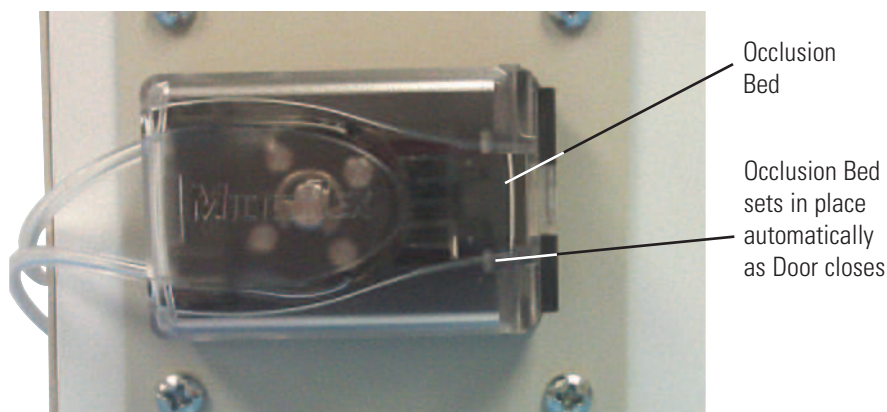

Figure 2-2. Door Closed - Automatically Sets Occlusion Bed
5. As you close the door you will notice the occlusion bed moves toward the rotor and contacts the tubing. Once the door is closed and it appears to have any excess tubing, open the door and remove excess by opening one of the retainers and gently pulling on the tube. Next, release the retainer and close door, Figure 2-2. Repeat again if necessary.